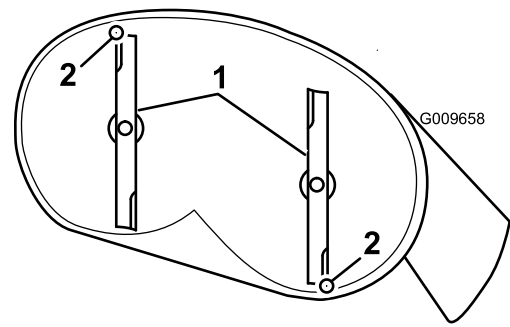
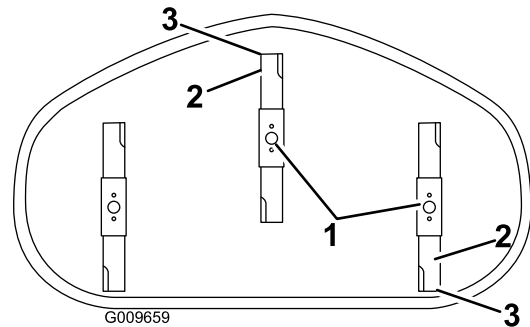

Figure 56
Figure 57
4. Carefully rotate the blades so they are facing front to rear (Figure 56 and Figure 57).
5. Measure from the tip of the front blade to the flat surface, and the tip of the rear blade to the flat surface (Figure 56 and Figure 57).
9. After adjustment, check the front-to-rear slope again, continue adjusting the nut until the front blade tip is 1.6 to 7.9 mm (1/16 to 5/16 inch) lower than the rear blade tip (Figure 56 and Figure 57).